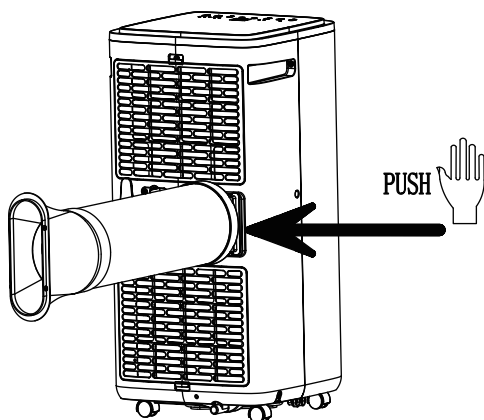

Fig.1
2)insert the heat pipe assembly (the end of the exhaust joint) into the back panel vent slot (push to the left) and compl  te the assembly (as shown in figure 1).